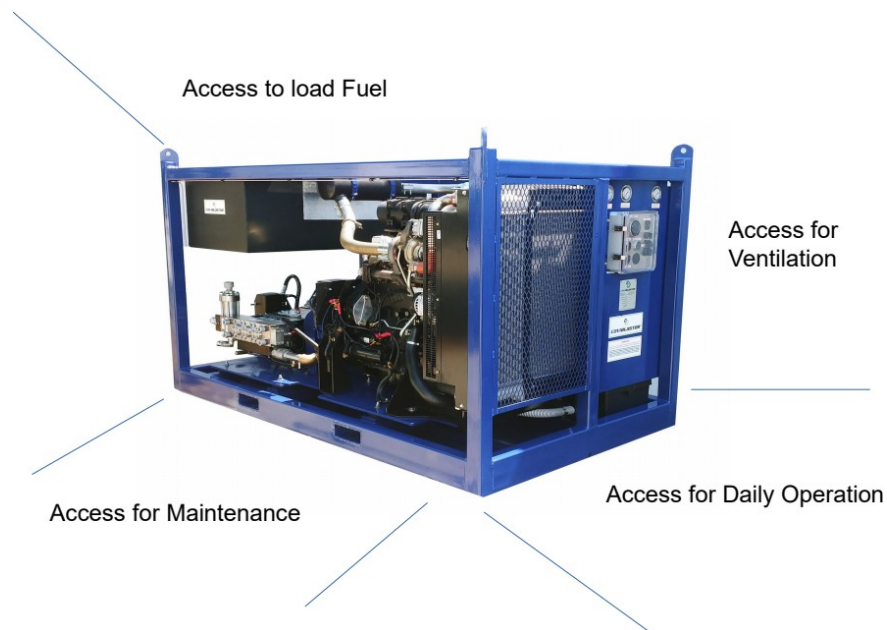

Figure 4.2 – Installation Guidelines
* Enclosed installations will require provisions for adequate engine cooling air flow and for venting of engine exhaust. See **Figure 4.2** below.